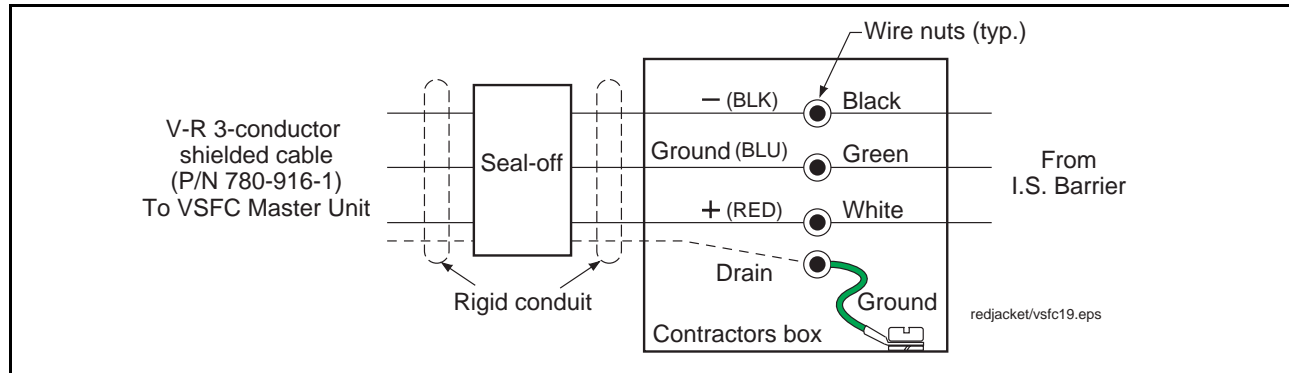

Figure 20. I.S. Barrier field wiring connections
8. Connect the black, white, and green wires in the bottom of the I.S. Barrier to the black (-) red (+), and blue (ground) wires in the VSFC cable using wire nuts as shown in Figure 20. Use a wire nut to connect the cable's drain wire to the grounding wire attached to contractor's box.